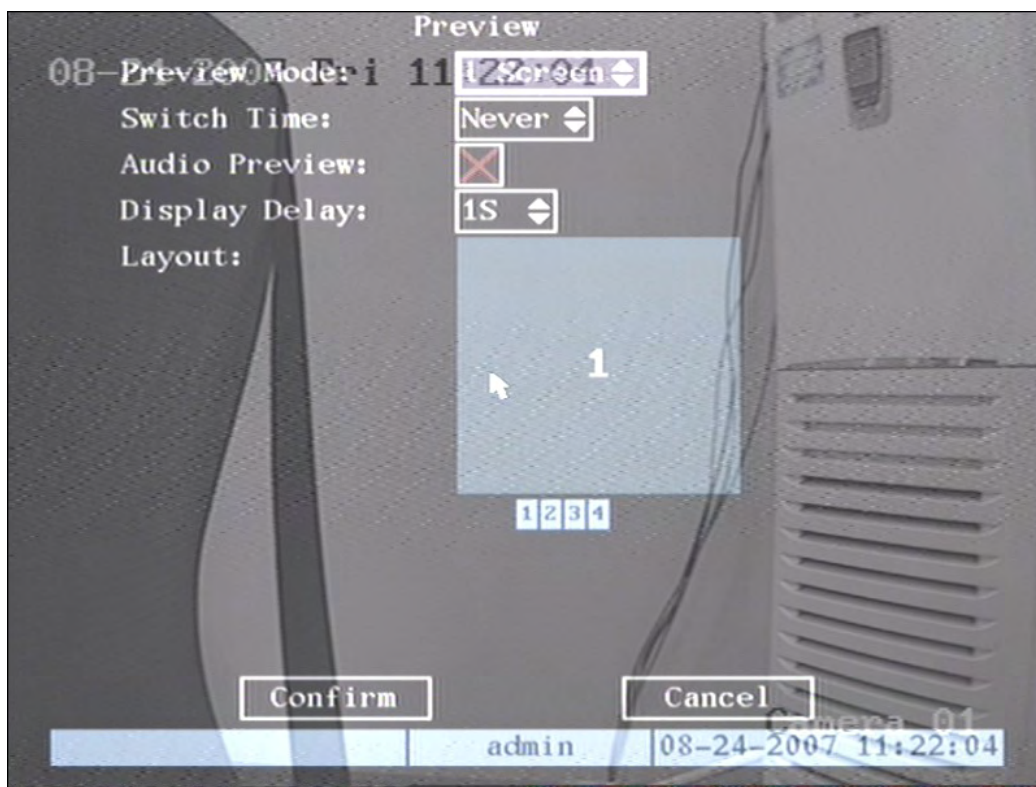

Fig 5.19 Setup preview mode
Step 1: Enter into “Preview” menu: In the main menu, move “Active Frame” to “Preview” icon and press **【ENTER】** , you can enter into “preview” menu. Shown as fig 5.19